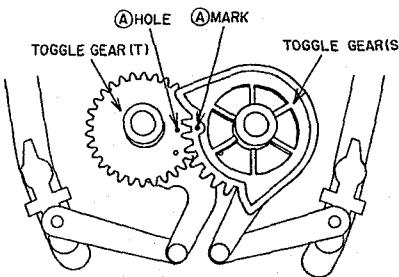

Fig. 3-8
- 1) Set the TOGGLE GEARS (T) and (S) to the unloaded position with your fingers. Align the ④ mark on TOGGLE GEAR (S) with the ④ hole of TOGGLE GEAR (T) as shown in Fig. 3-8.